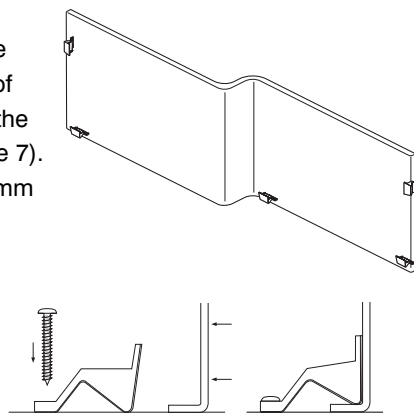

Figure 7
17. Pre fit front panel ensuring that the ends of the panel are vertical. Mark a line along the front of the panel on the floor. Remove panel and fix the plastic panel clips onto the floor/wall(s) (Figure 7). The front of the block at the floor should be 3mm back from the marked line.